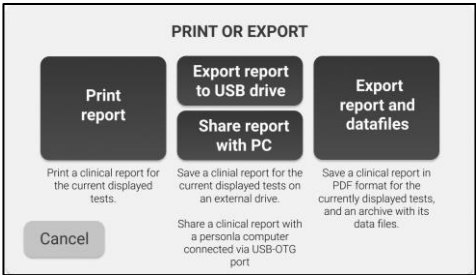

Figure 63 - Print or export the clinical report
- Select *Print report* to print the clinical report. Be sure to have a verified postscript USB printer connected the device (Figure 63),.